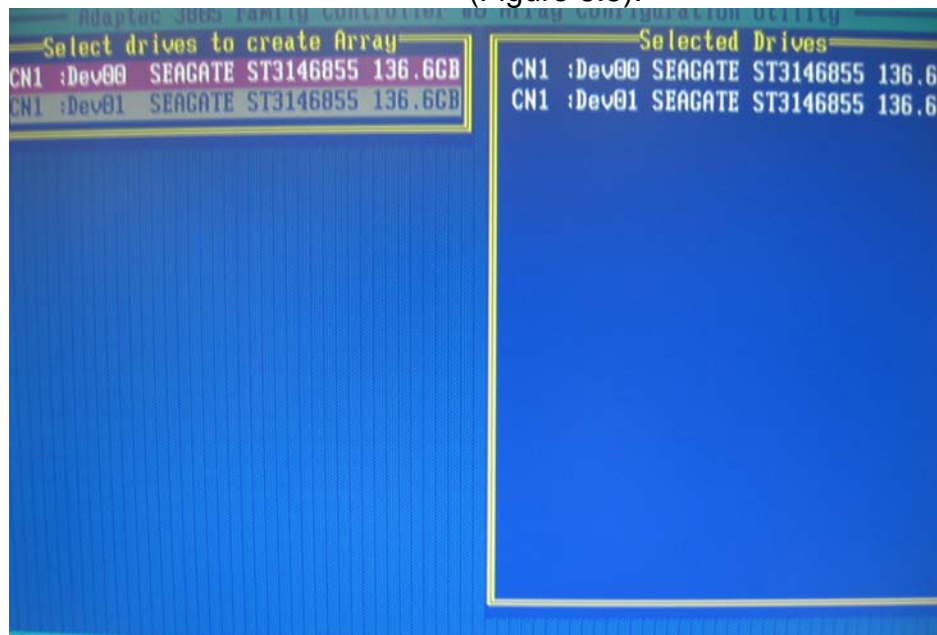

Figure 6-5 Select Both Drives
2. Press the **Space bar twice** to select both drives. Then press **Enter** to continue. (Figure 6.5).